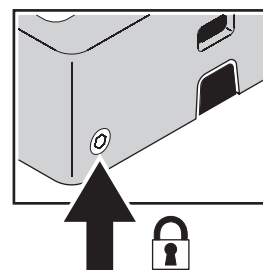

Figure 2: Mounting bracket locking screw
3. Hang the control unit over the tabs in the mounting bracket. See Figure 2. Do not tighten the locking screw in the bottom of the control unit housing yet because you will need access to the connectors in the back of the control unit when you install cables.